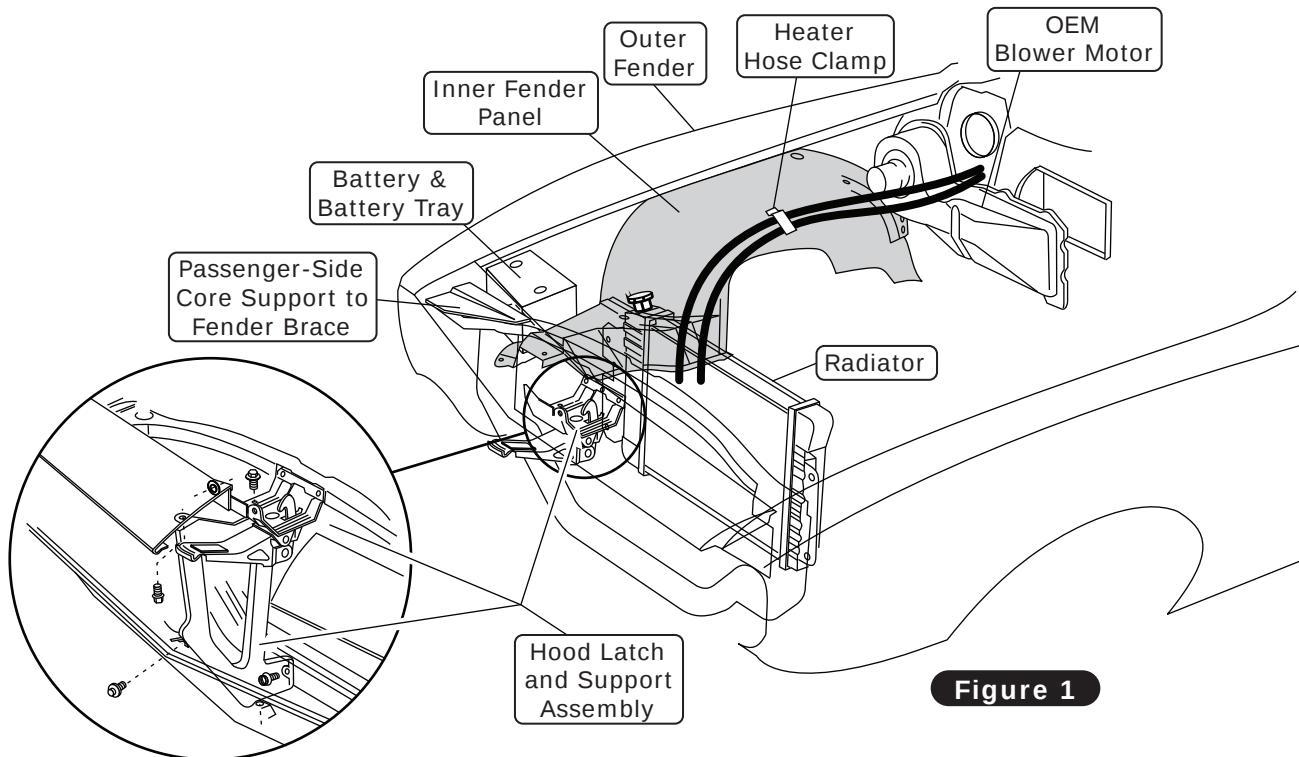

Figure 1
1. Remove the battery and battery tray (retain) (See Figure 1, below).
4. Remove the heater blower assembly (discard). **NOTE:** To remove the heater blower motor assembly (under hood) and the air distribution system (under dash), the factory manual indicates doing the following: Remove the right lower rocker molding. Remove the fender attaching bolts. Remove the skirt to the fender and skirt to reinforcement screws. Pull out on lower portion of fender, moving the skirt away from the fender flange and firewall. Block the skirt with a 2 x 4 block of wood. To avoid damage to paint and sheet metal, and for ease of removal and replacement of components, Vintage Air suggests that the right fender be removed and the inner panel be lowered (See Figure 1, below).
5. Remove the OEM heater hoses (discard) (See Figure 1, below).
6. Remove the OEM heater wiring/vacuum harness molded grommet (See Figure 1, below).